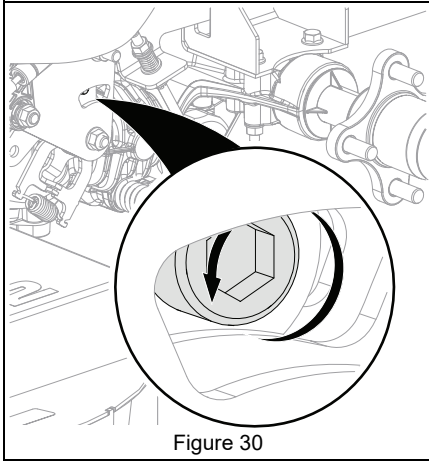

Figure 30
5. Loosen the neutral set screw on the transaxles. See Figure 30.